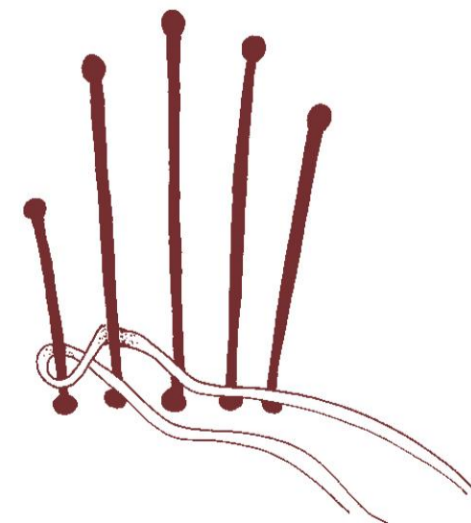

Figure 2
**4** To start twining, carry the weaver coming from the back side of the spoke to the next spoke around the back, which in this case is the index finger (see figure 2).